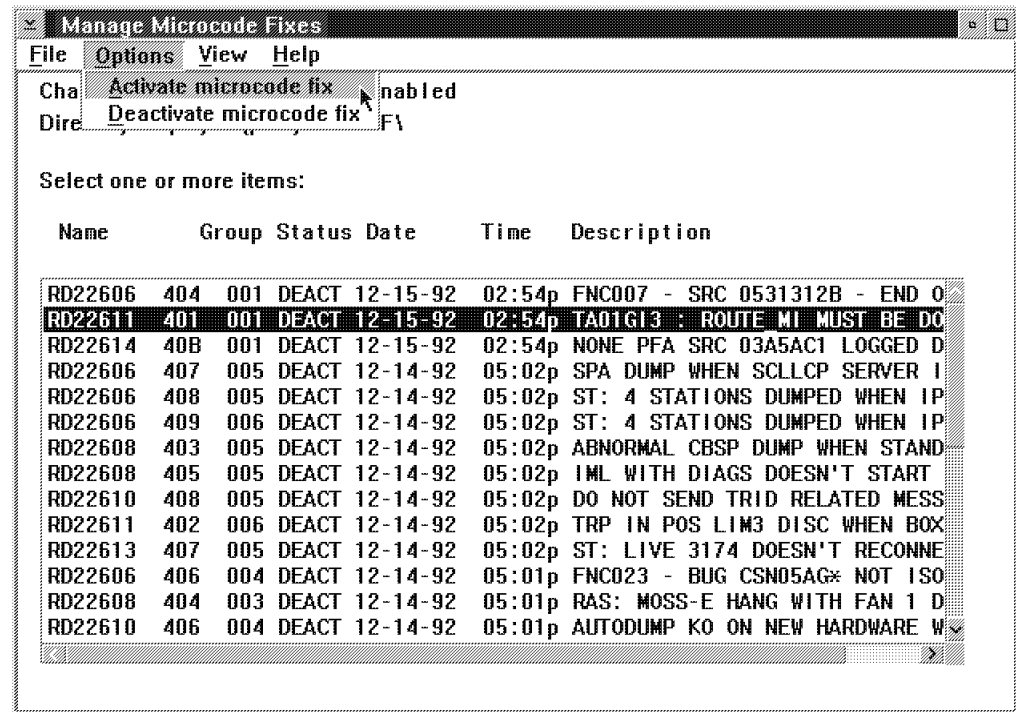

Figure 3-16. Manage Microcode Fixes
13. ____ Click on the lines of the MCFs to be applied (see example in the Figure 3-16 on page 3-27)
7. ____ Click on the lines of the MCFs to be removed (see Figure 3-16 on page 3-27)